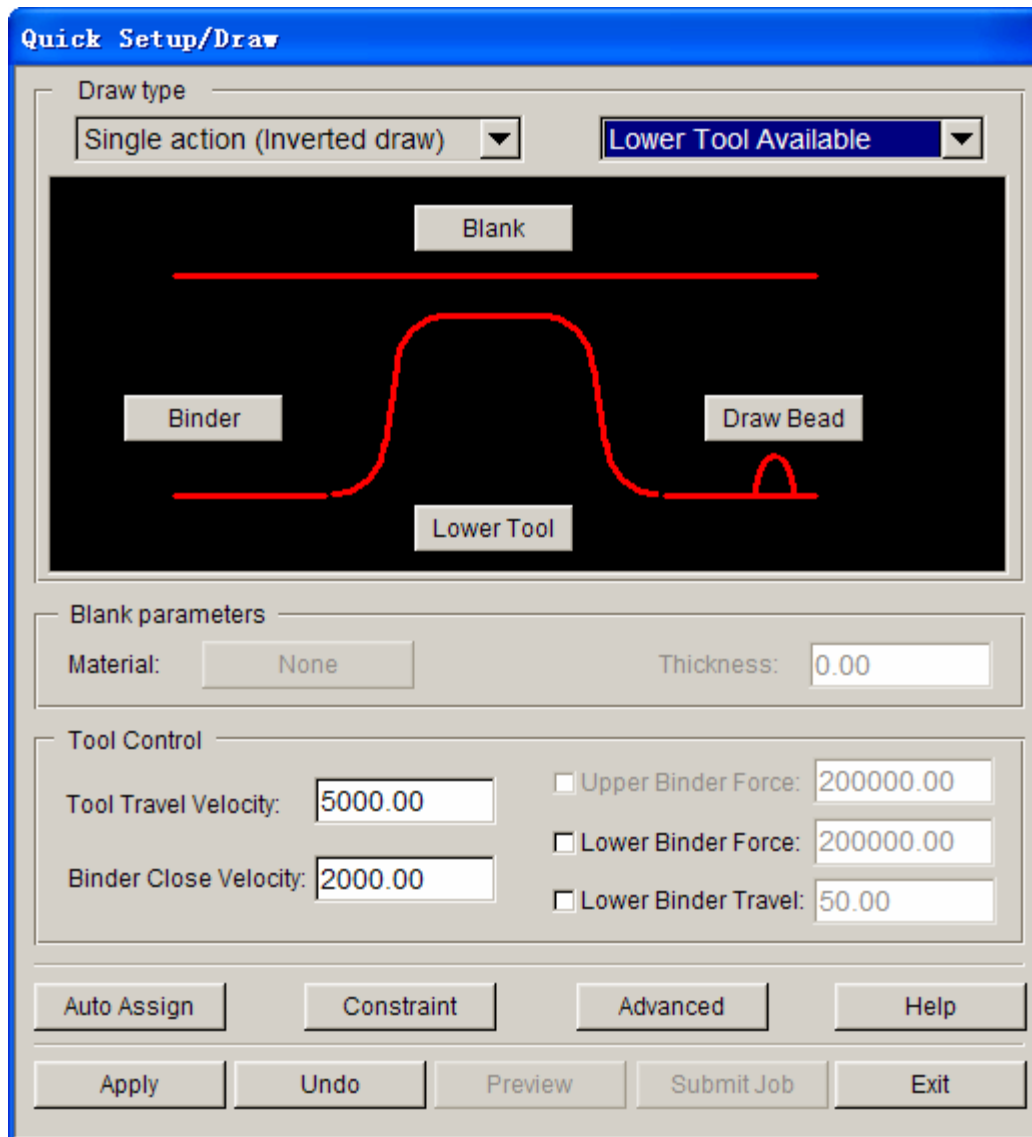

Figure 49: QuickSetup GUI
2. As shown in Figure 49, the undefined tools are highlighted in red in the QuickSetup GUI. Firstly, you need to select the **Draw Type** and **Type of Available tool**. In this application, the draw type is “**Single action**” or **Inverted draw**, while the **lower tool** is selected as the available tool.